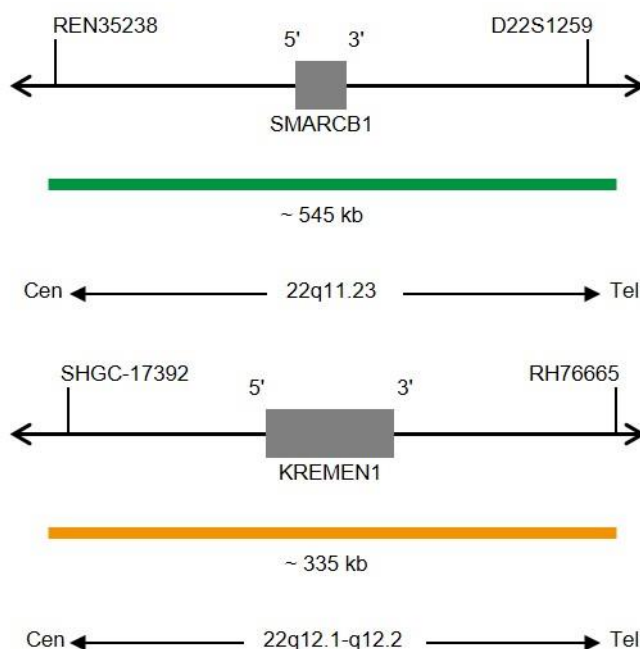

Fig. 1: Top: SPEC SMARCB1 Probe map, SPEC 22q12 Probe map (not to scale)
- ZyGreen (excitation 503 nm/emission 528 nm) labeled polynucleotides (~10 ng/μl), which target sequences mapping in 22q11.23* (chr22:23,887,951-24,431,064) harboring the SMARCB1 gene region (see Fig. 1).
- ZyOrange (excitation 547 nm/emission 572 nm) labeled polynucleotides (~4.5 ng/μl), which target sequences mapping in 22q12.1-22q12.2* (chr22:29,340,078-29,673,440) (see Fig. 1).